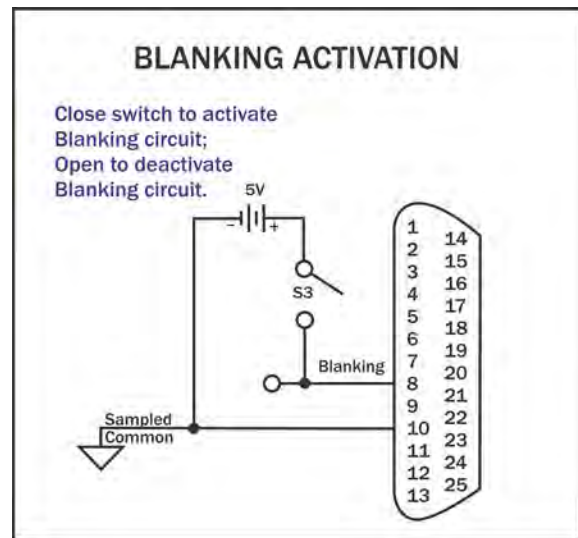

Figure 6.13 – Blanking Activation
**Method:** Build a switchable circuit using an external, isolated 5V power supply that can apply a +5V signal to PIN 8. Connect across PIN 8 (Blanking) and PIN 10 (Sampled Common). See **Figure 6.13**.